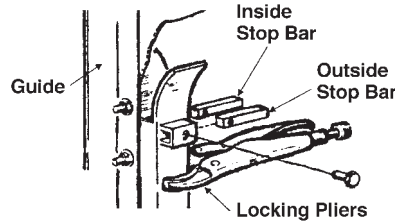

FIGURE 17
- If guides are flared, slide stop bar into channel holder welded to guide, and install 3/8" cap screw. See Figure 17.